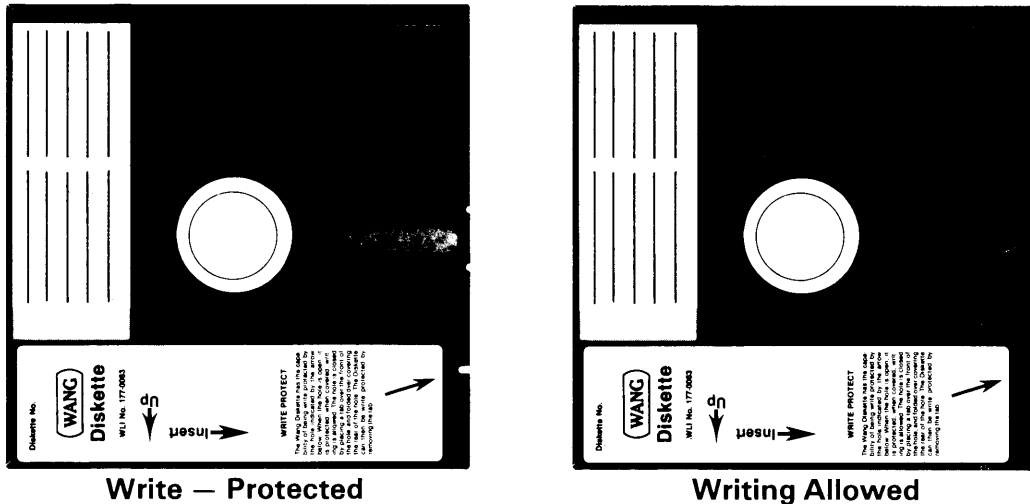

Figure 2-2. Diskette, with Tab Covering the Write Protect Notch
1. Remove a diskette from its envelope, and check to see that the Write-Protect notch on the diskette jacket is covered with a tab (Figure 2-2). If the Write-Protect notch is uncovered, the diskette cannot be formatted. Refer to Section 2.6 for a discussion of the Write-Protect feature.